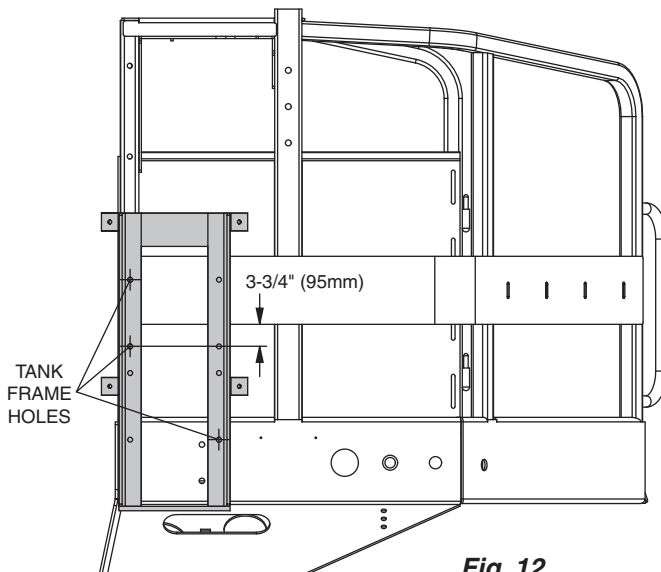

Fig. 12
1. Line up the left edge of the tank mounting bracket with the left edge of the platform and drill three 7/16" dia. holes as shown in **(Fig. 12)**.